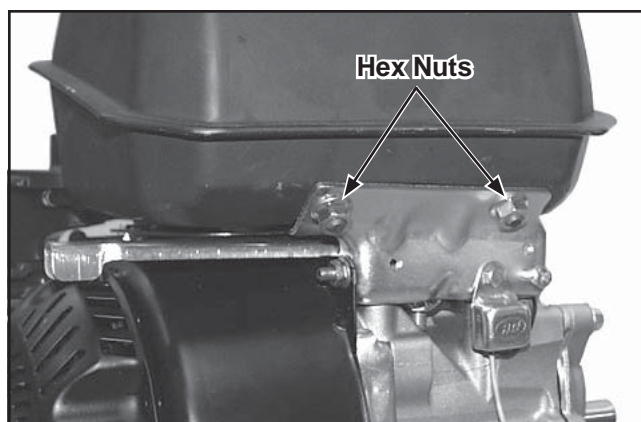

Figure 11-82. Installing Fuel Tank Hardware.
2. Install two hex flange nuts on the fuel tank studs. See Figure 11-82.